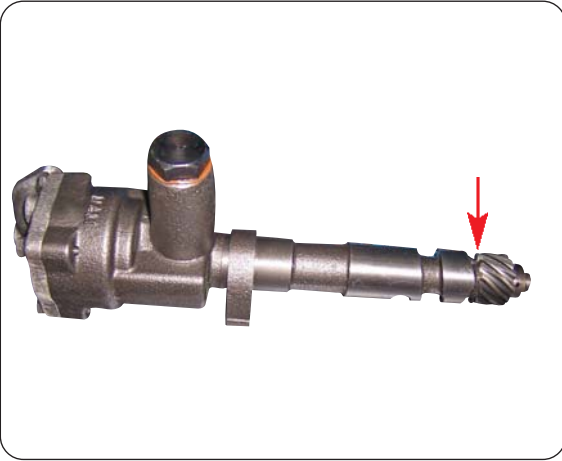

Fig. 4
- j) Check the clearance between the oil pump drive pinion and the body after the pump is assembled (Fig. 4).